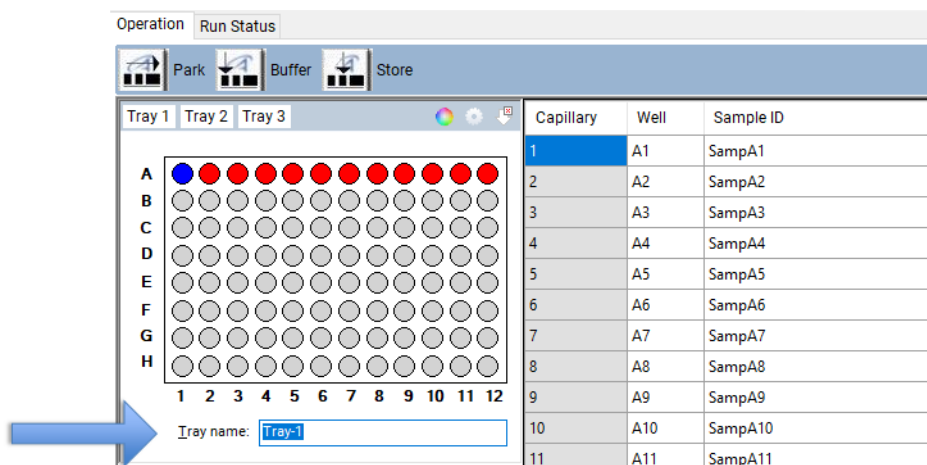

Figure 89 Highlight of the tray name
- 2 In the field **Tray name** of the **Operation** tab, highlight the tray name with the mouse cursor (**Figure 89**).